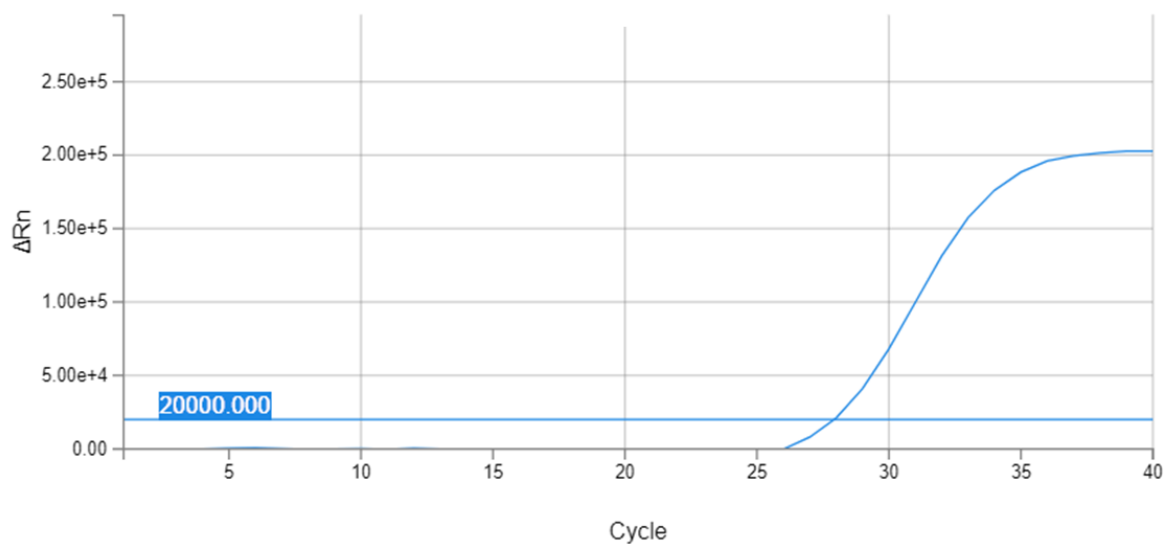

Figure2: The typical “good” qPCR amplification plot has a sigmoidal shape, in which the fluorescence increases exponentially each subsequent cycle.
- Look for qPCR false amplification curves (artifacts) and omit them from analysis; qPCR amplification curves follow a sigmoidal shape (exponential fluorescence increase, Figure2) whereas qPCR artifacts have a linear amplification shape (Figure3)